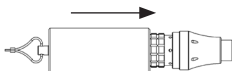

Figure 3
- Place connector sleeve on connector end of electric handpiece (Figure 3).
**Caution:** Connector end of electric handpiece must be sealed with connector sleeve provided with basket (Figure 3).